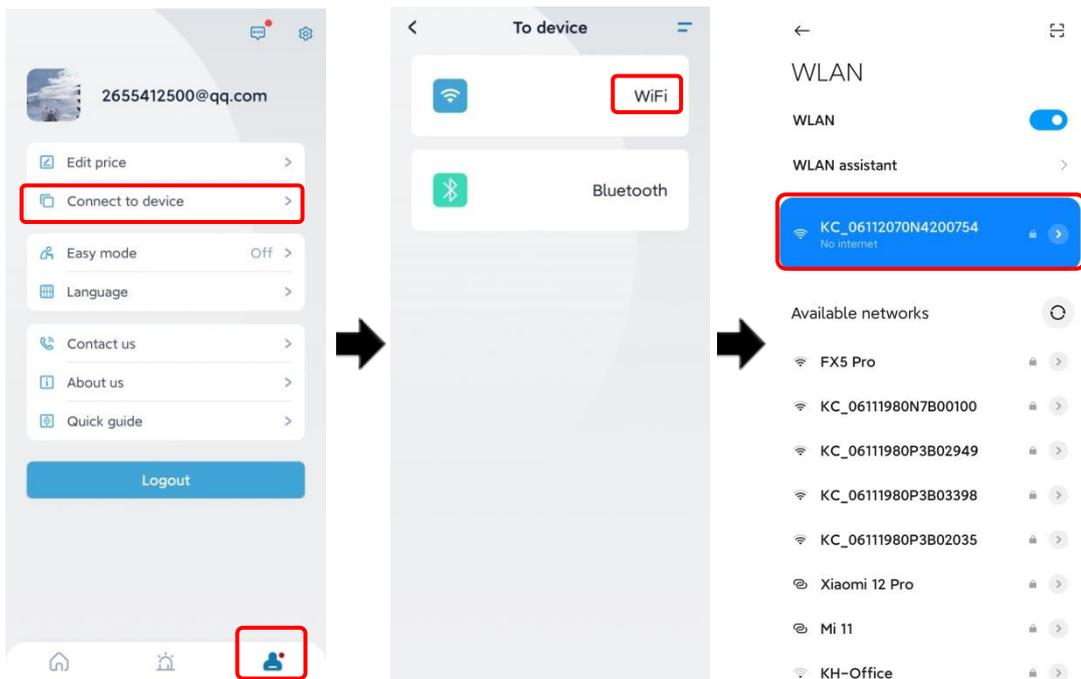

Figure4-9 Connect device
Step 9 In the main page, click , click **Connect to device**, and then click **WiFi**, it will show the WiFi list. Select the Wi-Fi whose name is the same as that of WIFI module, and then enter the default password: admin12345678, the WIFI module will be connected, as shown in Figure4-9.